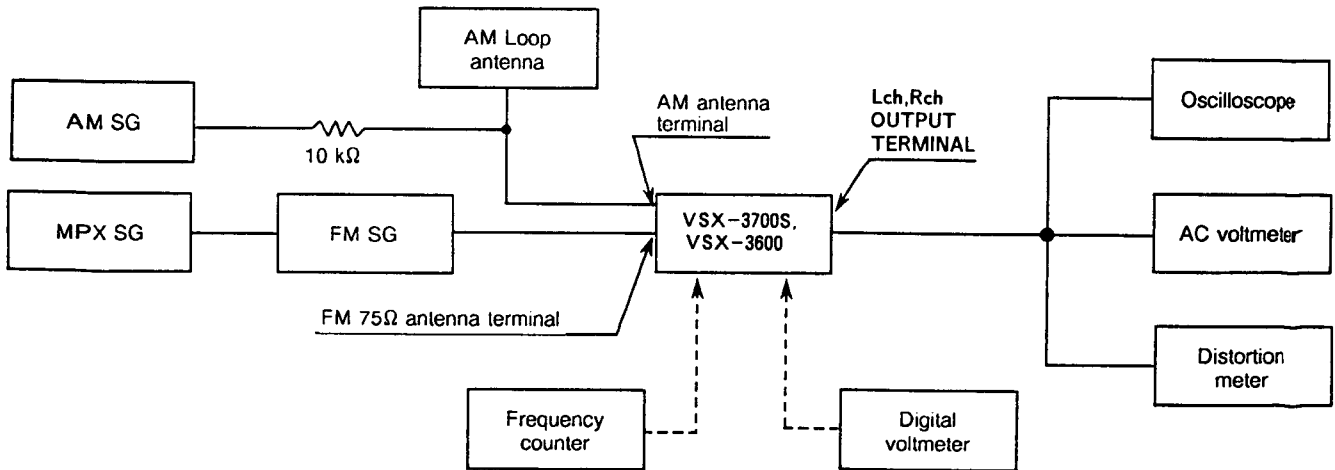

Fig. 6-2 MW and FM adjustment wiring diagram
- Connect the wiring as shown in the Fig.6-2